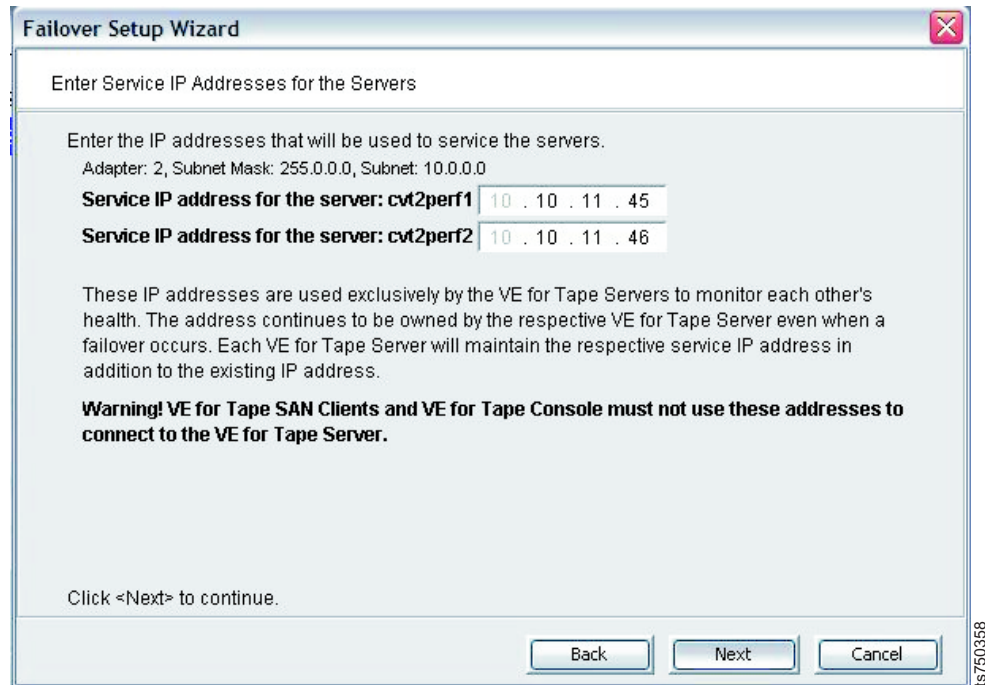

Figure 62. Entering or confirming service IP addresses for adapter 2
- ___ 14. In the Enter Service IP addresses for the Servers (Adapter 2) window (Figure 62 on page 79), do the following: